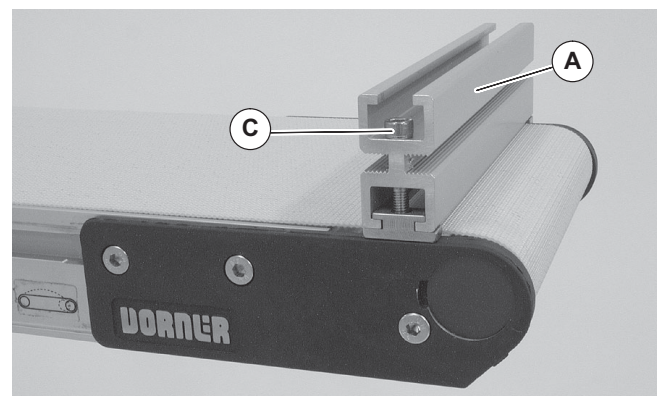

Figure 3
3. Install end stop with spacers (Figure 3, item A) on end of conveyor with M5 screws (CC). Tighten screws to 30 in-lb (3.4 Nm).